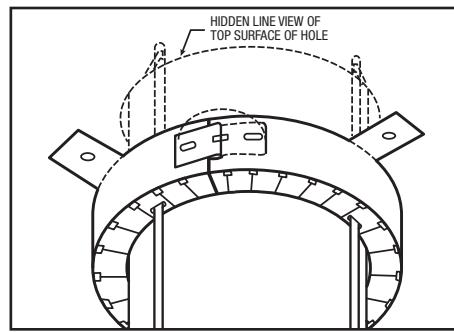

Figure 4: Slide straps through, PPD flush, lock and secure.
D. Slide the Ultra Fast Anchor Straps through the annular space between the pipe and edge of the opening until they catch the opposite edge of the opening (Figure 4 & 8).
E. Slide the PPD flush against the substrate surface and close PPD to final locking position on latch, then bend latch tab completely over to secure (Figure 4).